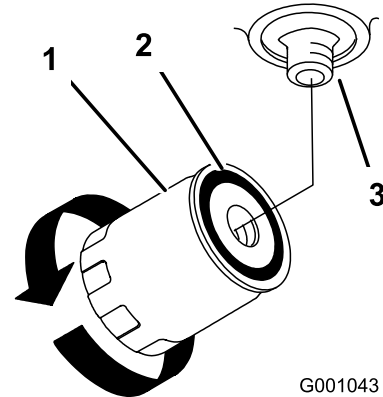

Figure 71
- Apply a thin coat to the rubber gasket on the replacement filter (Figure 71).
- Fill the hydraulic tank with hydraulic fluid until the fluid overflows the filter and then turn the oil filter clockwise until the rubber gasket contacts the filter adapter, then tighten the filter an additional 1/2 turn (Figure 71).